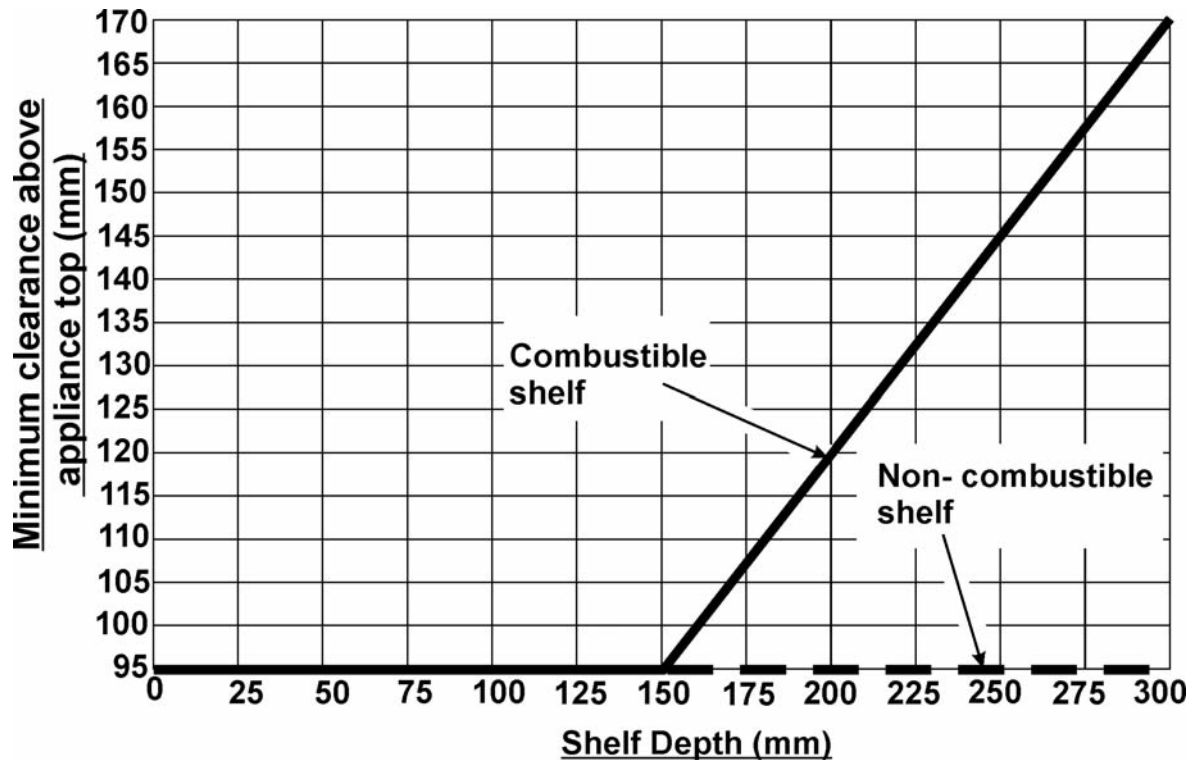

Figure 3. Shelf clearances
- For a shelf deeper than 150mm: 95mm + 12.5mm for every 25mm depth over 150mm (See Figure 3).